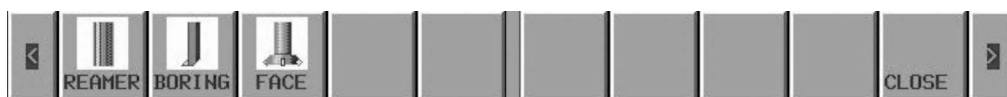

Figure 7-38 FACE Soft Key
- Press the continuous menu button once to display the tool type, FACE, and press the soft key to select it (Figure 7-38). Enter 1 in the SET column to identify the tool axis direction.